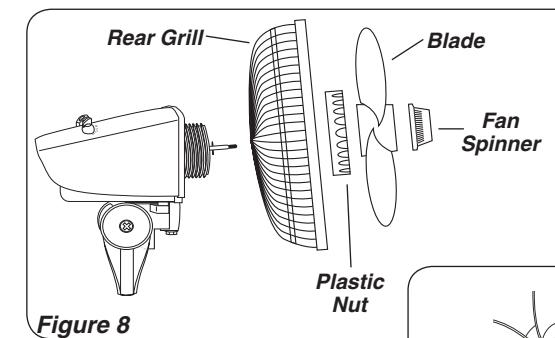
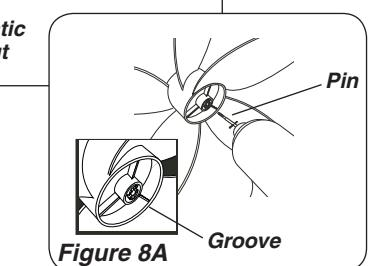

Figure 8
Figure 8A
3. Fully seat **Rear Grill** and secure with **Plastic Nut** turning Clockwise. Slide **Blade** onto **Motor Shaft**. (Figure 8) Align **Groove** on blade hub with **Pin** on motor shaft. (Figure 8A)